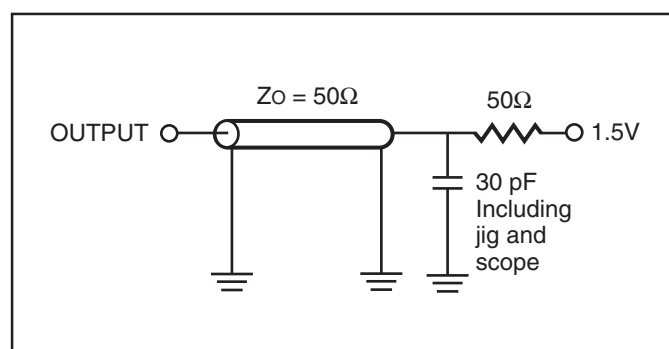

Figure 1.
- Test conditions assume signal transition times of 5 ns or less, timing reference levels of 0.9V/1.5V, input pulse levels of 0.4 to V_{DD}-0.2V/0.4V to V_{DD}-0.3V and output loading specified in Figure 1.
1. Test conditions assume signal transition times of 5 ns or less, timing reference levels of 0.9V/1.5V, input pulse levels of 0.4 to V_{DD}-0.2V/0.4V to V_{DD}-0.3V and output loading specified in Figure 1.